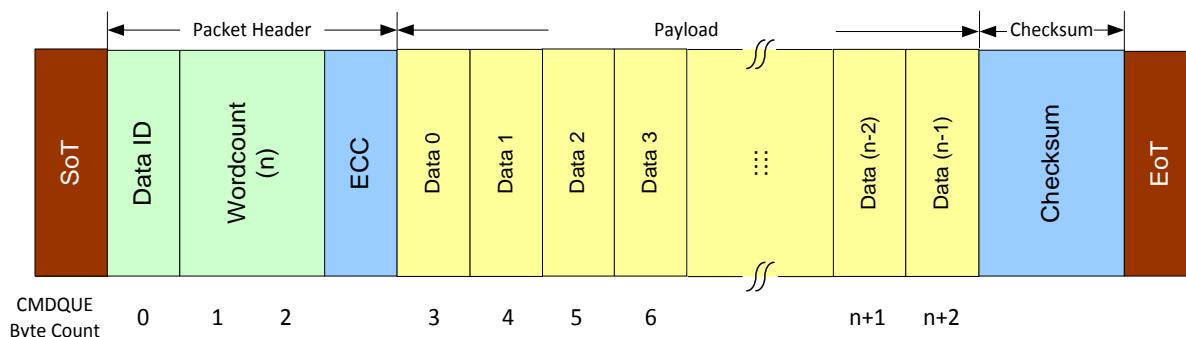

Figure 4-14 DSI Packet Byte Location in CmdQue
2. A DSI packet with header is shown in Figure 4-14. Host is responsible to write the whole DSI packet, including header bytes, into the CmdQue. ECC and Checksum will be appended by TC358860XBG before sending out via DSI link.
3. TC358860XBG interprets the 1st data in CmdQue as the packet Data ID, 2nd and 3rd bytes as Word Count for a long packet (or Data 0 and Data 1 for a short packet). The 4th byte as Data 0 for a long packet, 5th byte as Data 1... as indicated in the bottom of Figure 4-14.
- iii. TC358860XBG DSI Tx fetches the first 3 bytes of data from CmdQue appended ECC to form the header of the command. The remaining 32 bytes of data plus its calculated Checksum will be added as payload of the packet as shown in Figure 4-14.